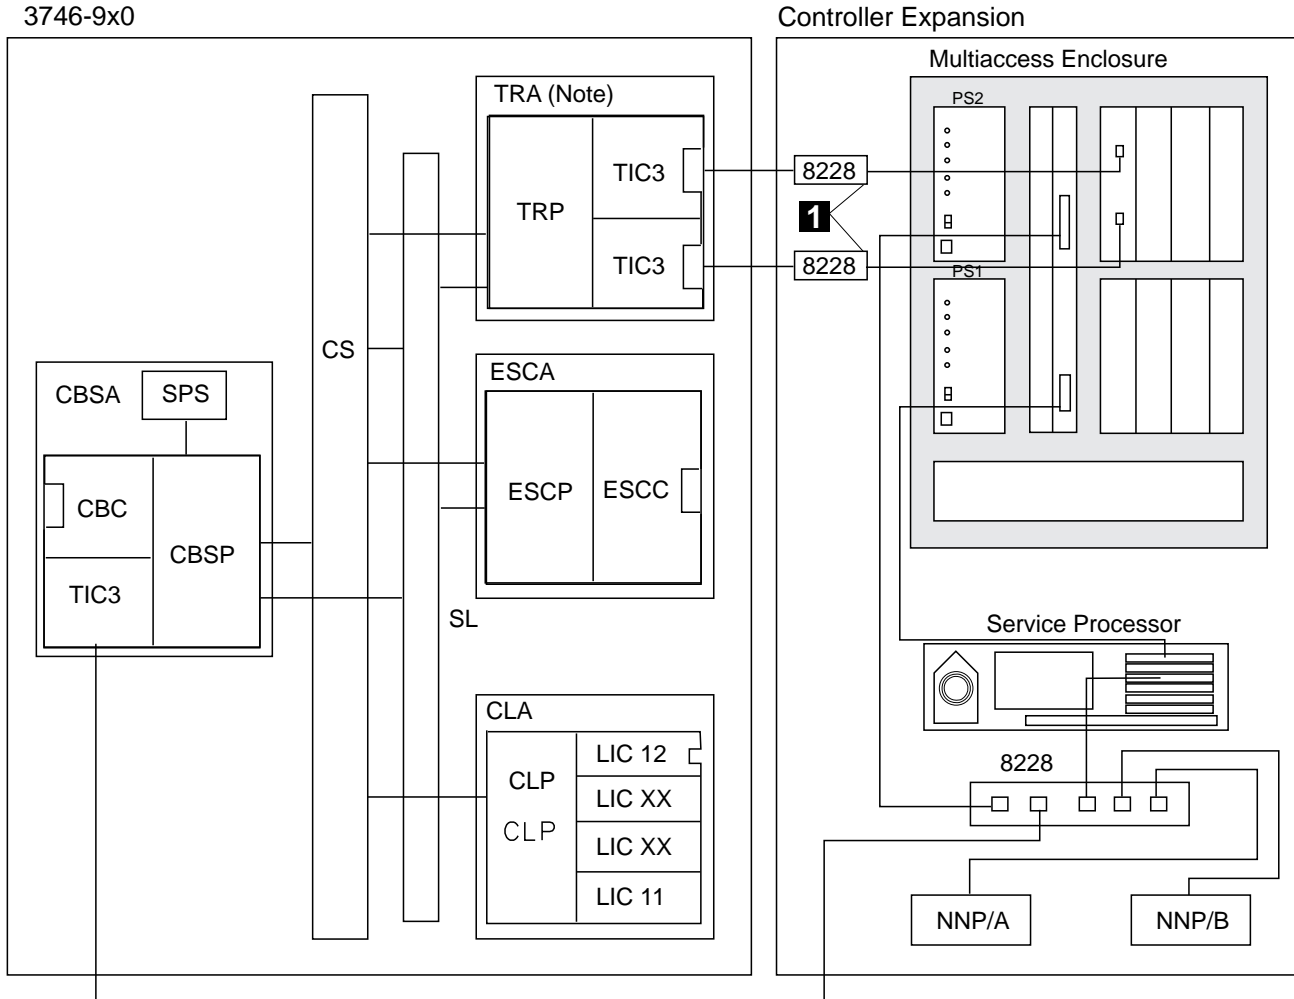

Figure 26-2. Multiaccess Enclosure Environment
1. If internal attachment via LAN to the 3746 Models 900 or 950 switch is required for traffic routing between MAE ports and other ports (such as IP traffic, APPN/HPR traffic, or NCP traffic) a 2-port Token-Ring adapter (feature code 3280), one or two dedicated Token-Ring couplers type 3 (feature code 5601), and one or two multiaccess enclosure Token-Ring kit (feature code 9713) (depending on performance requirement) are required. See **1** in Figure 26-2 for Token-Ring cable connection between the Multiaccess Enclosure and the 3746 Model 900 or 950.